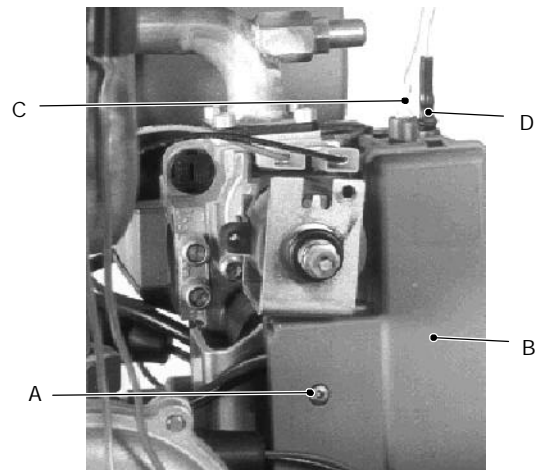

fig. 55 (view from the left side of the boiler)
- 2 unscrew the screw *A* and remove the protection cover *B*; disconnect the flame detection cable *C* and the ignition cable *D* (fig. 55);